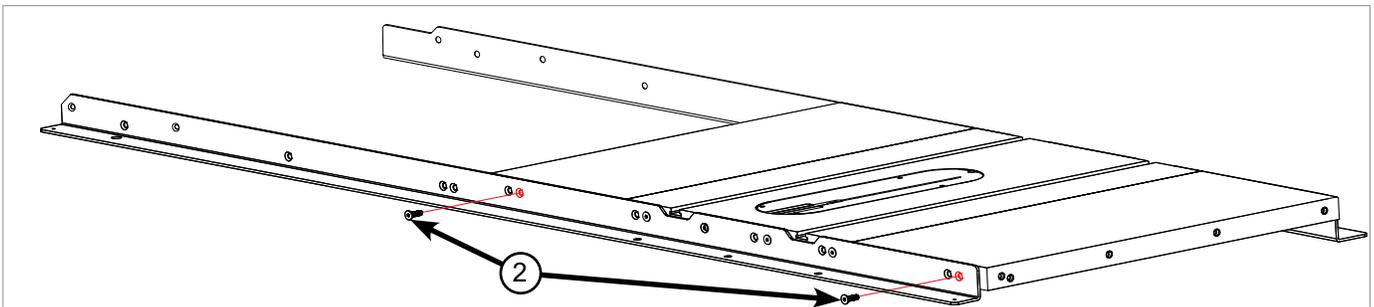

Fig. 5a
5. Finish mounting the rear rail to your saw by inserting an M8 x 25 countersunk socket head bolt through the open hole at the end of each extension wing (see Fig. 5a), and placing an M8 washer, an M8 lock washer, and an M8 hex nut on the threaded end of each bolt (see Fig. 5b). Hand tighten the nuts; do not fully tighten them.